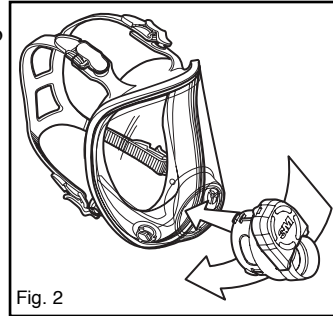

Fig. 2
2. Slide adapter into lens port. (Fig. 2)
4. Re-install center adapter into facepiece lens. (Fig. 2)